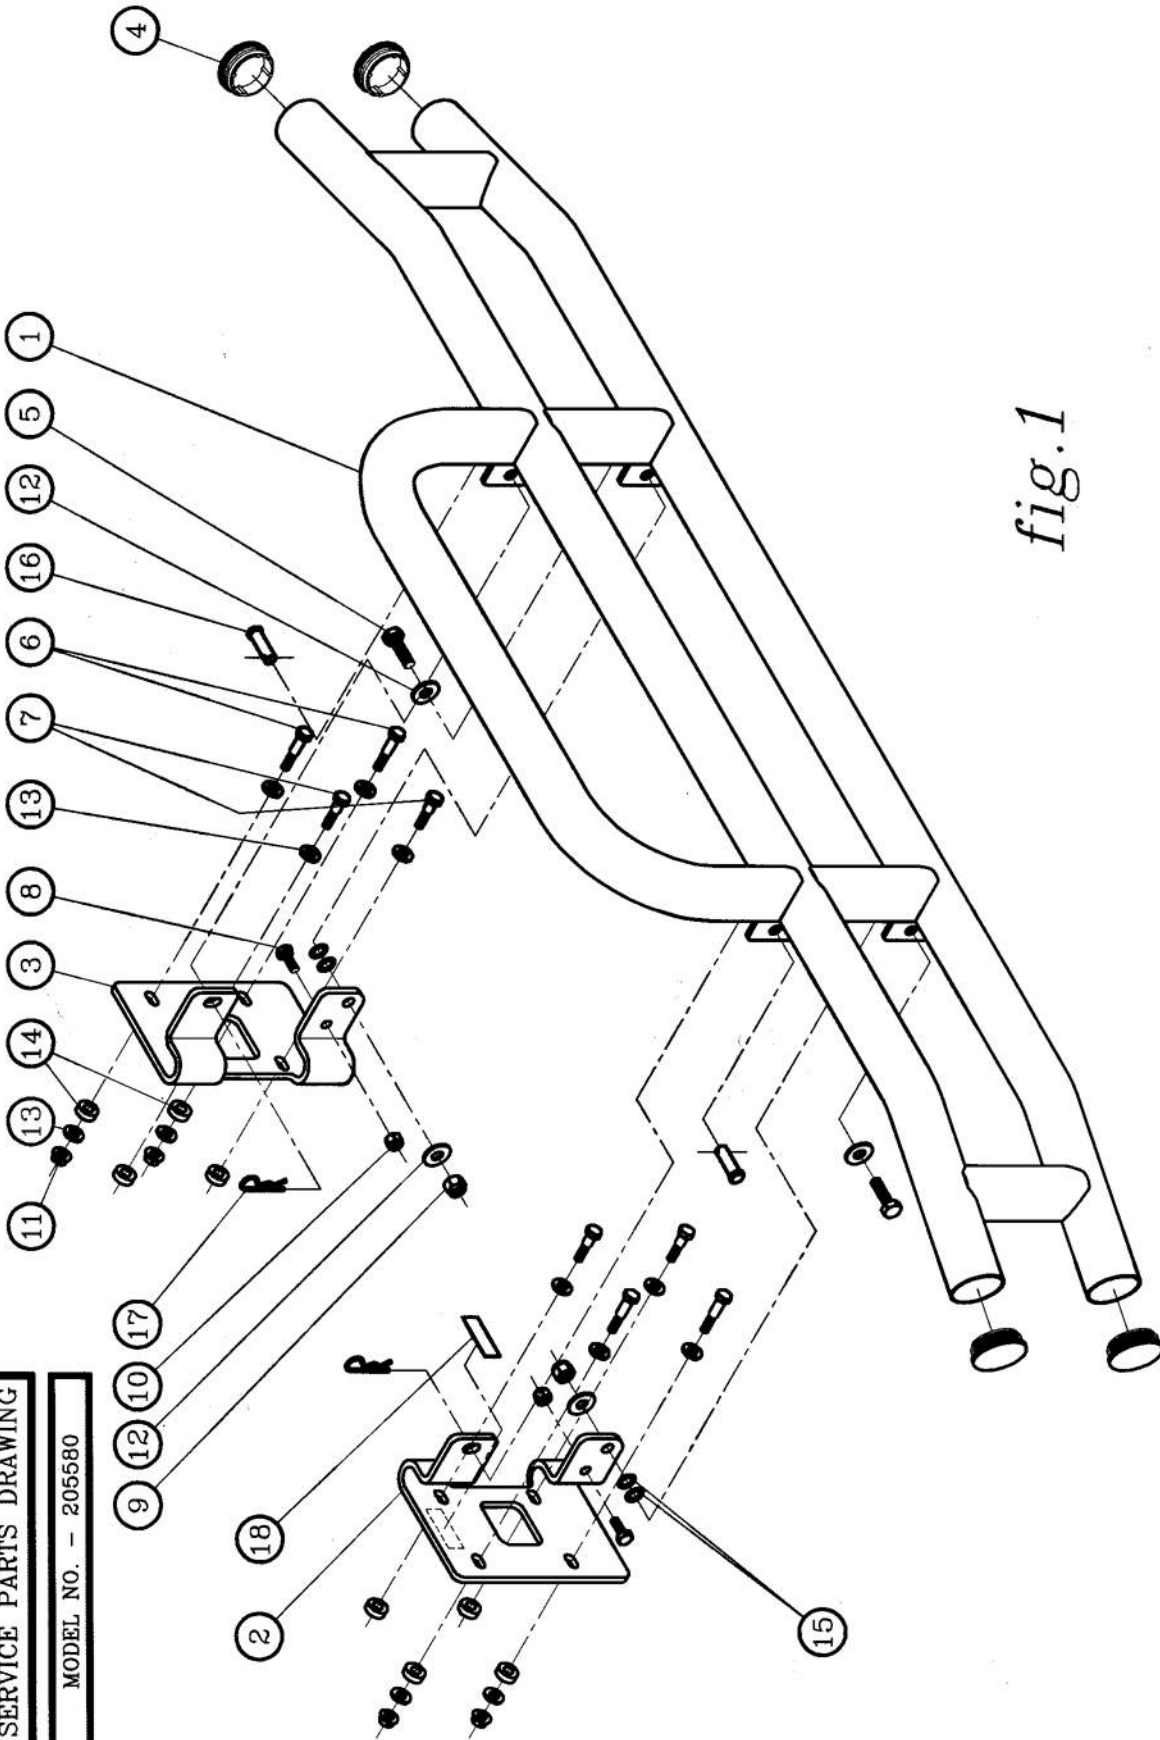

fig.1
3. INSTALL THE MOUNTING BRACKET (ITEM #2) OR (ITEM #3) FOR THAT SIDE, USING THE ½-13 X 2" HEX HEAD SCREW (ITEM #7) IN THE TWO INSIDE HOLES, THE ½-13 X 2-1/2" HEX HEAD SCREWS (ITEM #6), IN THE OUTSIDE HOLES, FOUR SPACERS (ITEM #14), ½" SAE FLAT WASHERS (ITEM #13), AND ½-13 SERRATED FLANGE NUTS (ITEM #11) AS SHOWN IN FIG. 1. HAND TIGHTEN ONLY AT THIS TIME.